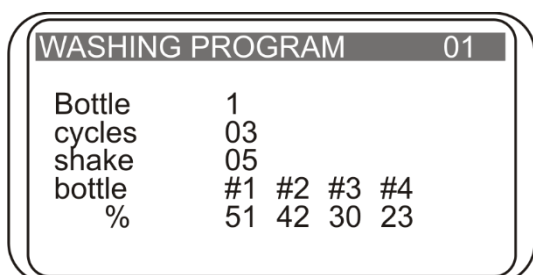

Fig. 7. Display during operation with connected 4-CHW Logger
- 4.14. If operation requires washing from two channels (parameter "On two channels" set to YES), confirmation of the correct bottle number for second wash appears on the display before starting the program (fig. 7). Select necessary bottle number using **+** and **-** keys and press the **Run/Stop** key.